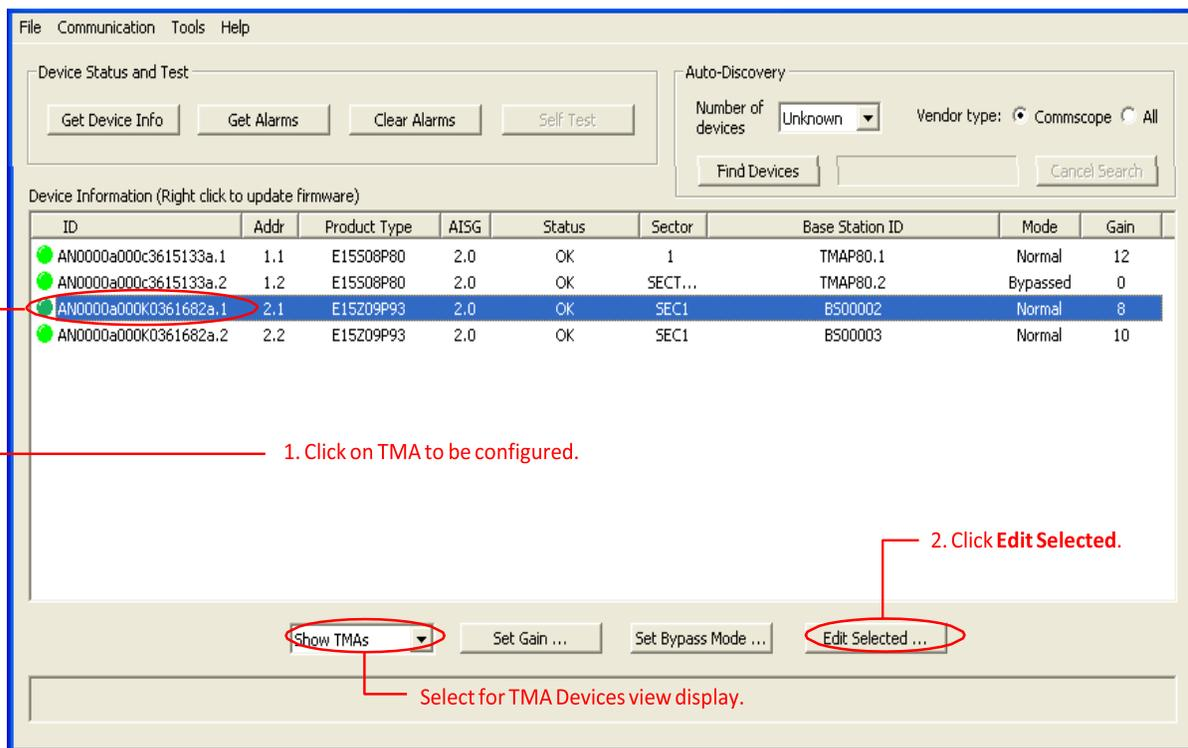

Figure 12-1 Selecting TMA to be Configured.
2. To begin device configuration, click on the TMA to be configured (Figure 12-1).
3. Click on **Edit Selected** to open the **Configuring TMA** screen (Figures 12-1 and 12-2).